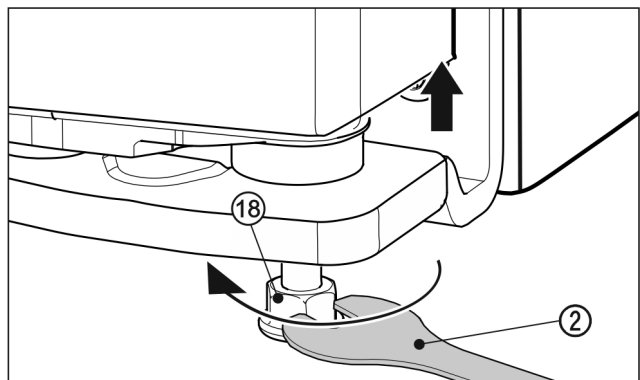

Fig. 26
- To lift the door, unscrew the adjusting foot Fig. 26 (18) clockwise using the supplied open-ended spanner Fig. 26 (2) until the foot comes into contact with the floor. Then continue turning until the door is adjusted to the right height. When delivered, the bearing pin is completely screwed in.